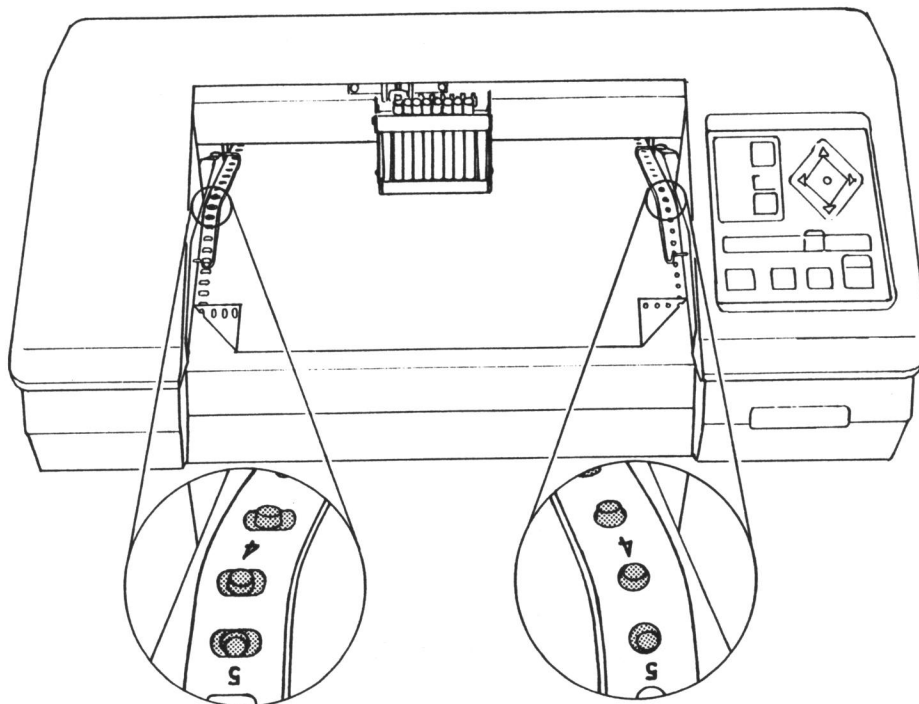

Figure 1-20
5. Align the media holes with the plotter sprockets so that the numbers in the margins of the media correspond (see Figure 1-20).